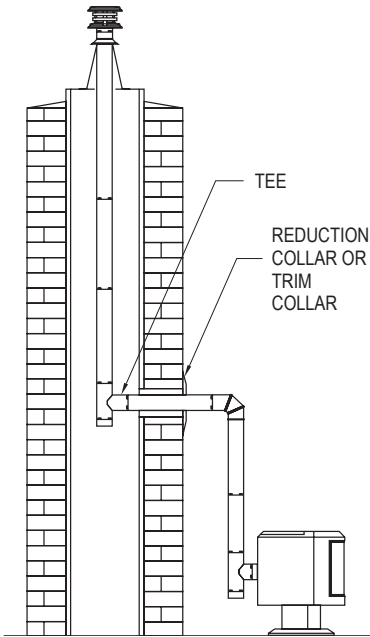

Figure 16
1. Set the appliance in its final location and mark the center of the hole where the pipe is to penetrate the masonry chimney (**Figure 16**). Insure that you comply with the manufacturer's specifications in regards to clearance and distances from combustible surfaces.
- B. A Tee is installed at the bottom end of the vertical pipe (**Figure 16**).
- C. A Reduction Collar or a Trim Collar is required to go around the pipe section that passes through the masonry to give it a finished look (**Figure 16**).